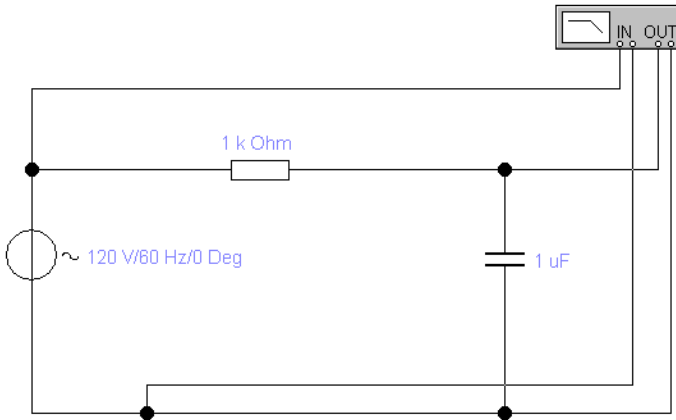

Figure 8.4 - Low pass filter
- 1 Draw a pattern of Fig. 8.4.